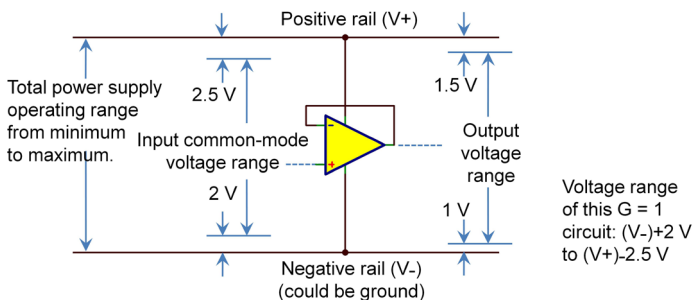

Figure 1: Input and output voltage ranges of a typical op amp used on dual supplies (\pm).
2. The input common-mode voltage range (C-M range) is generally specified relative to the positive and negative supply voltages, shown in Figure 1. In some equation-like form, the C-M range of this hypothetical op amp would be described as 2 V above the negative rail to 2.5 V below the positive rail. Something like this: $(V-)+2$ V to $(V+)-2.5$ V.
Figures 1, 2 and 3 show a $G = 1$ buffer configuration. A key point here: The output capability of the example in Figure 1 will be limited to 2 V from the negative rail and 2.5 V from the positive rail, which is due to the limited-input C-M range. You would need to configure this op amp in a higher gain to deliver its full output-voltage range.
The example in Figure 1 is typical of an op amp generally used on dual supplies. It would not be called a “single-supply” type, but it could operate as a single supply by staying within those ranges.